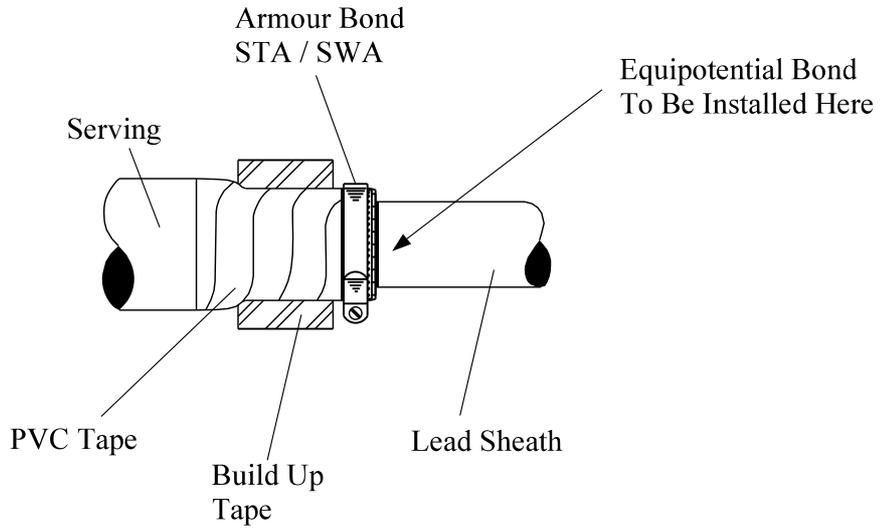

Fig 4.
Where the cable has been cut becomes the reference mark for the joint, wearing the red Mappa gloves the oversheath is cleaned down using the approved degreaser for a distance of 1.5m. Using the reference line and a chinagraph pencil mark where the oversheath termination will be, after the aluminium sheath, has been exposed during the early stages of making a straight joint and before the aluminium sheath, has been cut to the required length, as dictated by the relevant Jointing Procedure, a clean temporary continuity connector shall be applied, see Figure 4 of GRD2D 6.10.2 and properly tightened to the cleaned aluminium sheath, at a position where it will not interfere with the jointing procedure. With a PICAS cable this will be in the location of where the water blocking shall be applied. The application and removal of the earth continuity bond requires the use of class 1 electrical gloves as detailed in the matrix of GR 3. **The bond shall not be removed until the permanent earth conductor has been re-established across the joint**, or the normal earth path is restored by the joint sleeve, or by a permanent armour bond in the case of cables where the armour is the only continuity conductor.
- 1.7 Remove the PVC bedding up to the binding wire applied in 1.6, by cutting with a hook knife along the side of the cable, which will allow the bedding to be removed. See Fig 4.